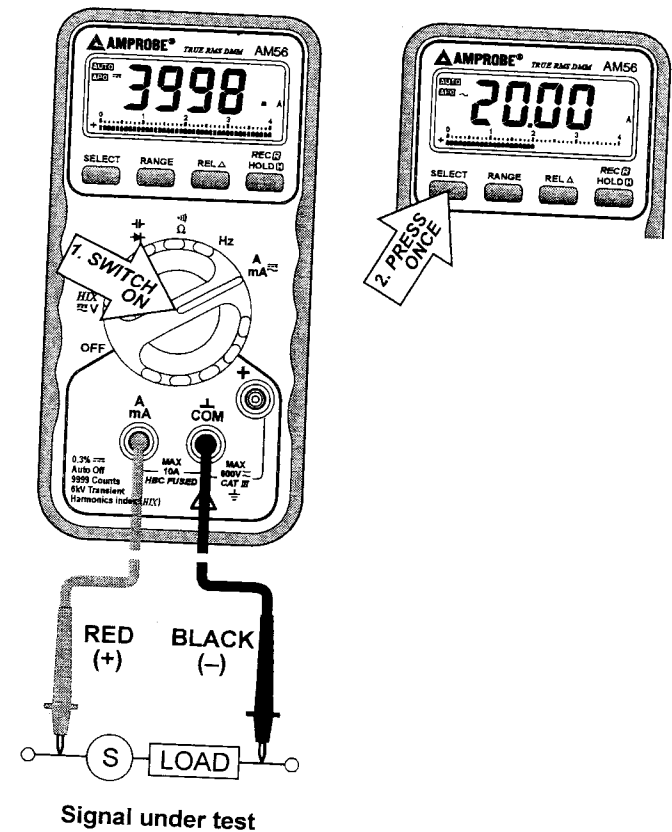

FIG 9. mA, A FUNCTION (AM55 & AM56 only)
- 4) Connect the test leads as shown in FIG 9 and observe the digital display